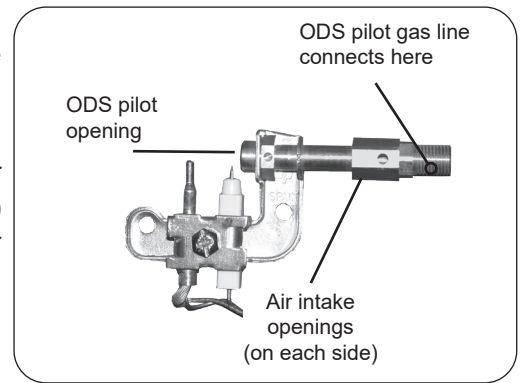

Fig. 23-1
1. Turn the burner system to the **OFF** position and allow it to cool. Inspect the ODS pilot area (see Fig. 23-1) for any visual contamination or debris (usually lint, hair, spider webs, or small insects). Lightly brush off all external surfaces while vacuuming loosened debris from the ODS pilot opening. **Be careful not to brush any foreign material into the ODS pilot opening.**
2. Clean out the air intake openings (see Fig. 23-1) by lightly brushing around the openings while vacuuming.
4. If the ODS pilot flame does not burn as indicated in the instructions, extinguish the ODS pilot by turning the valve to the full **OFF** position. Using a compressed air duster, insert the flexible nozzle through the air intake openings, ensuring that the nozzle is pointed toward the ODS pilot opening (see Fig. 23-1). Blow air through the intake openings to clear out any debris that may be in the system.
5. Relight the ODS pilot and inspect it to be sure it is burning as shown in the instructions. If not, extinguish the ODS pilot and **turn off the gas supply to the burner system.** Using an adjustable or a 1/4" wrench, disconnect the ODS pilot gas line (see Fig. 23-1) from the valve.